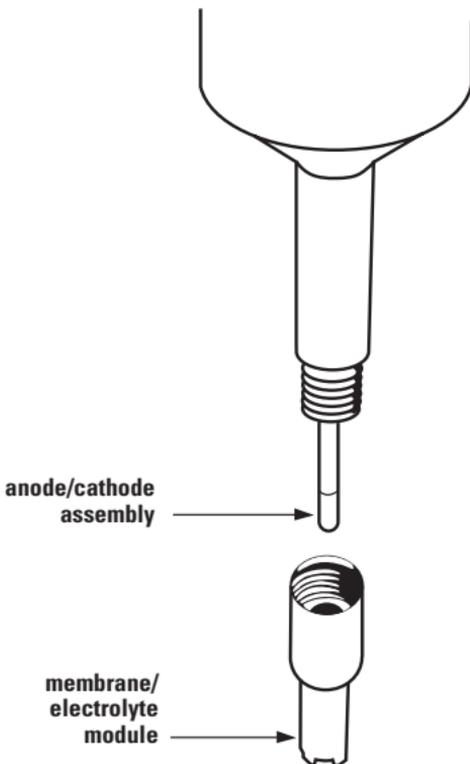

Figure 2 – Membrane Module Installation
2. Remove the membrane module from the foil patch. The module is pre-filled with a liquid gel electrolyte. Do not spill or remove the gel electrolyte. Do not touch the anode/cathode assembly with your fingers. See **Figure 2**.